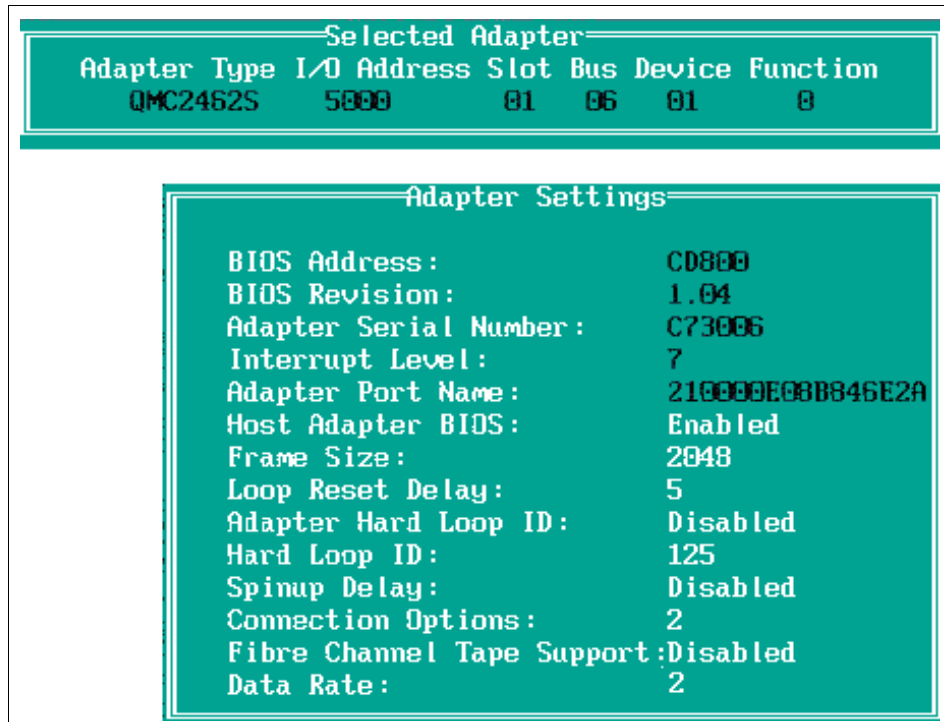

Figure 8-7 Adapter Settings WWN info and enable BIOS window
- Under Configuration Settings, click **Adapter Settings**. You will see a window similar to Figure 8-7.